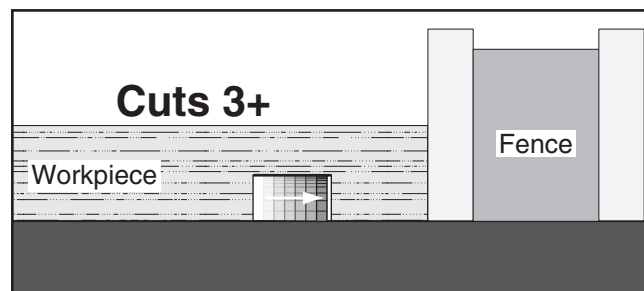

Figure 63. Additional single blade dado cuts.
8. Make additional cuts (see **Figure 63**) in the center of the dado to clear out the necessary material. The dado is complete when the channel is completely cleared out.